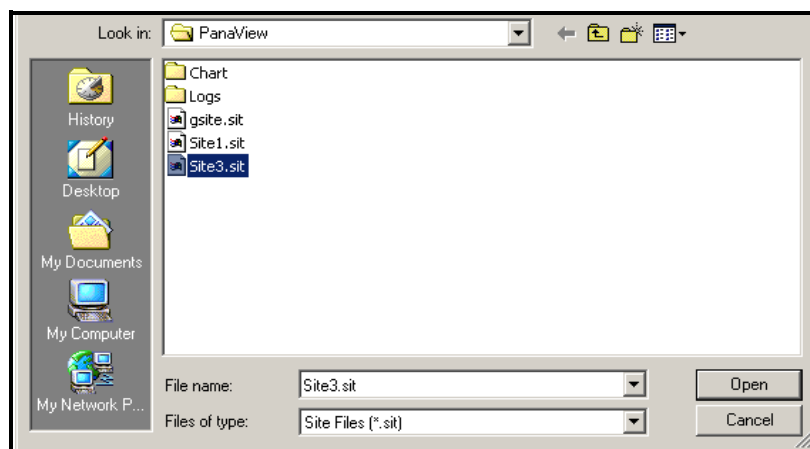

Figure 32: Site File Selection
2. Then click on the *Save Site to Meter* button. A screen opens similar to Figure 32.